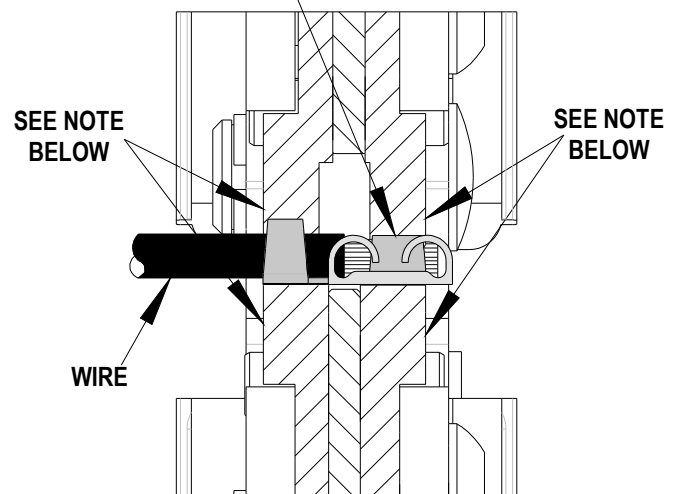

Figure 2
3. Place the terminal into the nest profile, centered on the nest as shown, with the outer edges of the crimp grips flush with each side of the crimp die and the opening in the terminal centered below the forward leg of the right punch. See Figure 2.
5. From the **left side of the tool**, insert the pre-stripped wire into the terminal until the conductor is centered, front to rear, in the crimp grips. See Figure 2.